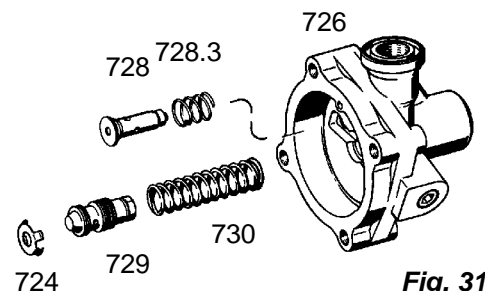

Fig. 31
Fit the removable throttle insert (728) together with compression spring (728.3) and valve spool (729) with compression spring (730) into the cover (726) (**Fig. 31**).